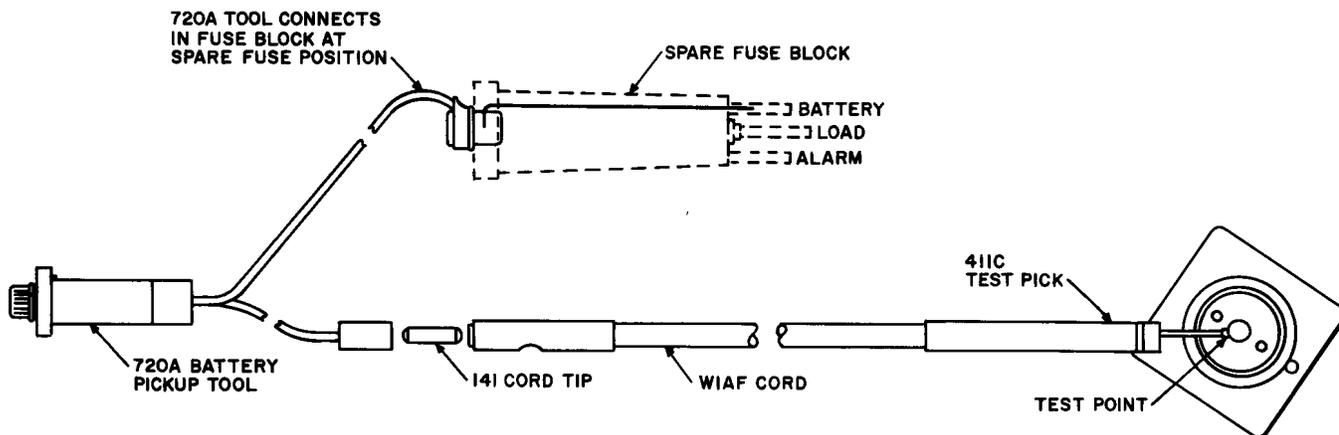

Fig. 2—Fuse Alarm Testing Cord—Tool Connection
- (1) Prepare an alarm test cord (Fig. 2) by connecting one end of a W1AF testing cord to a 141 cord tip and a 720A voltage pickup tool. (The KS-6278 connecting clip may be used to replace the 720A voltage pickup tool.) On the opposite end of the W1AF testing cord, connect a 411C test tool.
- (2) Install the 720A voltage pickup tool in a spare 70-type fuse position. (If the 720A tool is not available, obtain the same magnitude voltage supply by connecting the KS-6278 connecting clip with the W1AF test cord to the fuse block bus bar.)